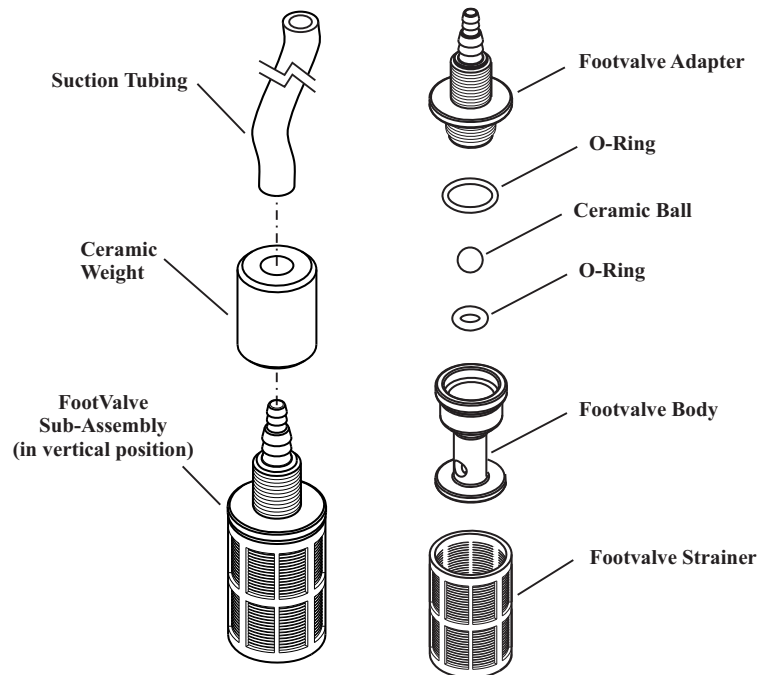

FIG. 4.7 FOOTVALVE ASSY.
- ✓ Periodically clean the suction strainers. Fig.4.7